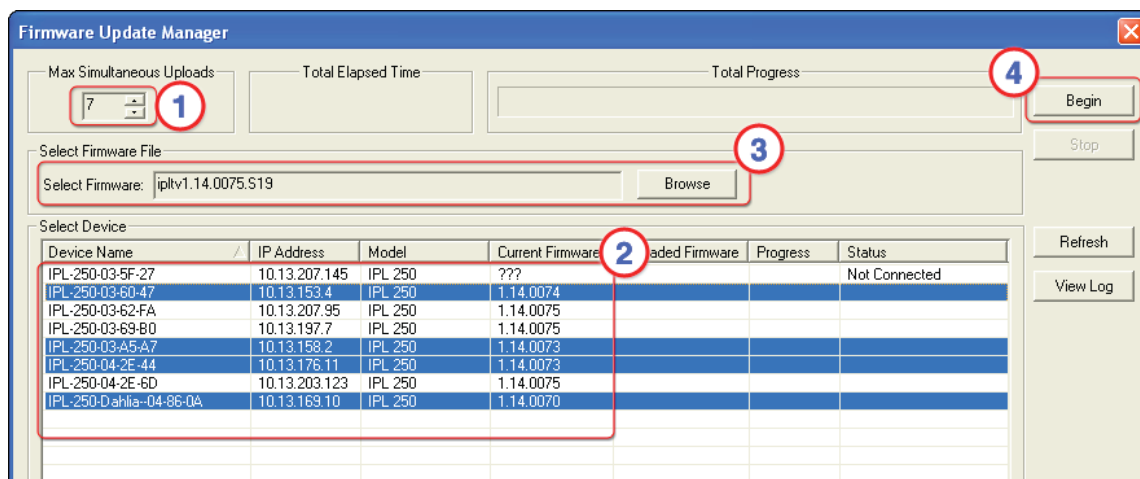

Figure 47. Steps 6 through 9: The Firmware Update Manager Window Prior to Uploading
6. Set the maximum number of firmware uploads that can take place at the same time (see figure 47, ①). The firmware files are uploaded to this many units at a time until all units listed in the Select Device list have received new files. The default is 5 uploads at a time, and the upper limit is the total number of units shown in the Select Device list.
7. In the Select Device list, select the devices for the firmware update (see figure 47, ②). Figure 47 shows an example of a system with IPL 250 units, but the process is identical for the IPCP.
8. Click **Browse** in the Select Firmware File panel (see figure 47, ③), then locate and select the firmware file you downloaded in step 1.
9. Click **Begin** (see figure 47, ④), then confirm that you want to start uploading the firmware. The software displays the progress and status of the firmware upload for each unit, then performs a firmware validation before finishing. If uploading fails, you can view the error log by clicking on **View Log**. If uploading is successful, the Status column indicates success for each unit.